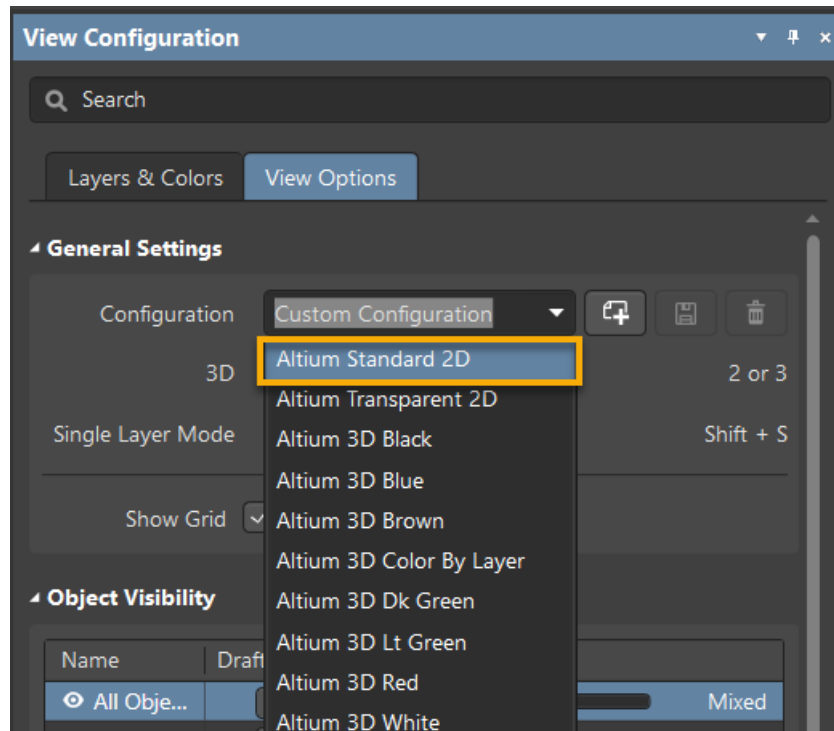

Figure 12. Different predefined Views
36. You can revert to the default **Altium Standard 2D** configuration by selecting **Altium Standard 2D** from the *Configuration* drop-down list as shown in Figure 12 below.